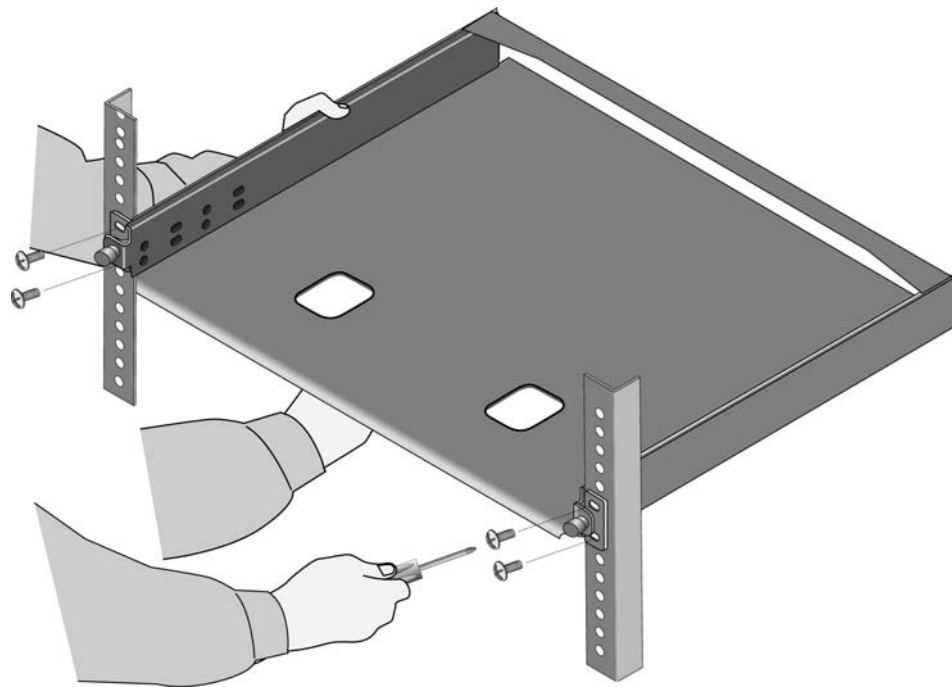

Figure 23. Installing the AT-RKMT-J15 Bracket in the Equipment Rack
1. Have another person hold the AT-RKMT-J15 Bracket at the desired location in the equipment rack while you secure it using four standard equipment rack screws (not provided). Refer to Figure 23.